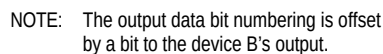

Figure 4. Using Two ADC-207's for 8-Bit Operation
3. Clock Pulse Width – To improve performance at Nyquist bandwidths, the clock duty cycle can be adjusted so that the low portion of the clock pulse is 12ns wide. The smaller aperture allows the ADC-207 to closely resemble an ideal sampler. See Figure 4.